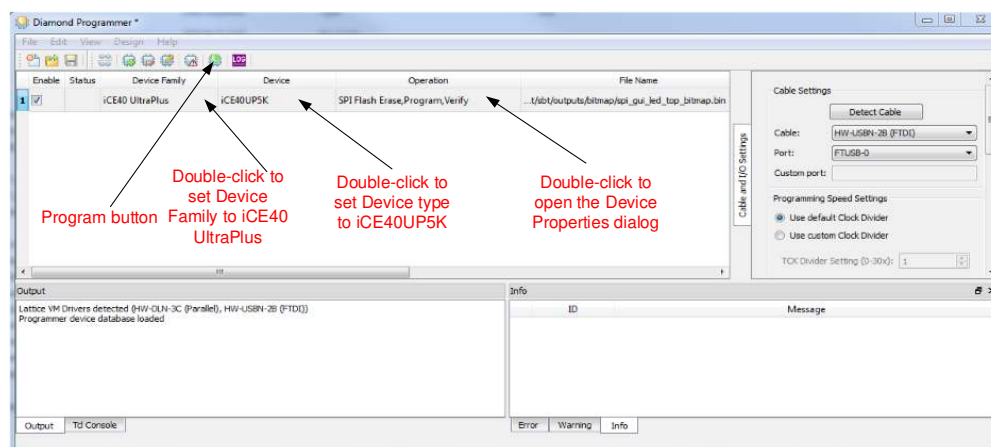

Figure 8.3. Setting Status in Diamond Programmer for Programming Flash
4. Set **Device Family** to “iCE40 UltraPlus” and **Device** to “iCE40UP5K”. Refer to Figure 8.3.